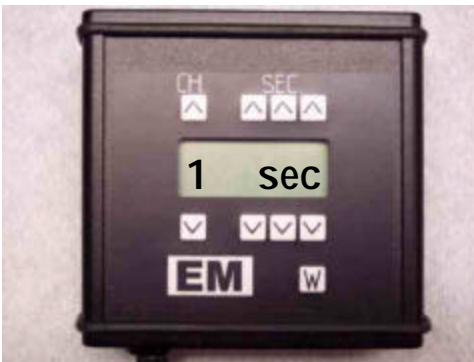

Fig. 5
3. If you want the selected channel to be a Time activated channel choose SEC. (Fig. 5)